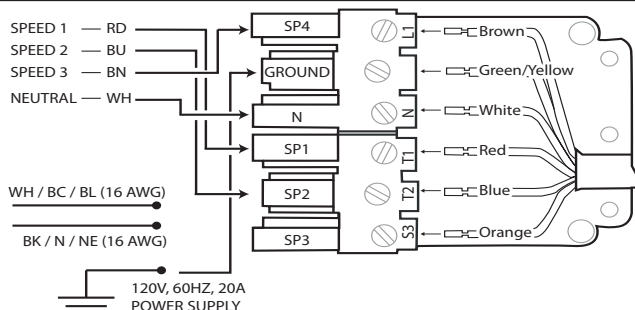

Figure 12: Wiring the Hood with a Remote Blower
8. Run five (5) #14 AWG wires in 1" (25.4 mm) conduit from the remote blower to the second conduit connector.
9. Connect the remote blower to the pigtail wires as shown in *Figure 12*. Connect the remote blower green (ground) wire to the ground screw in the junction box. Refer to the blower installation instructions for further wiring details.